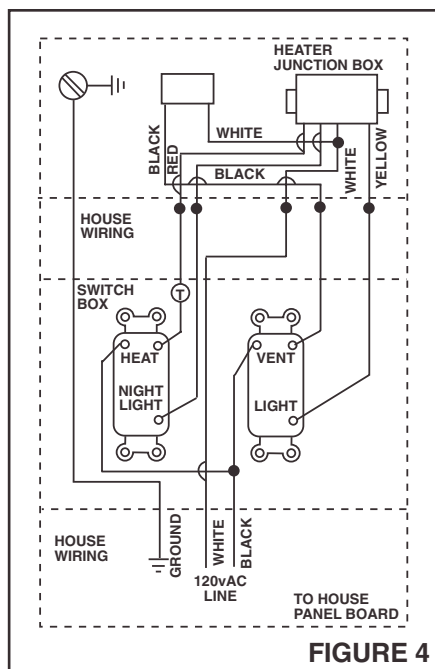

FIGURE 4
2. **Refer to Figure 4.** Run 120vAC supply wiring to wall switch box. Run wiring from wall switch box to heater. Five conductors plus ground are required for independent operation of all functions.
3. When a thermostat or timer switch is used, connect at point marked "T" on Figure 4.